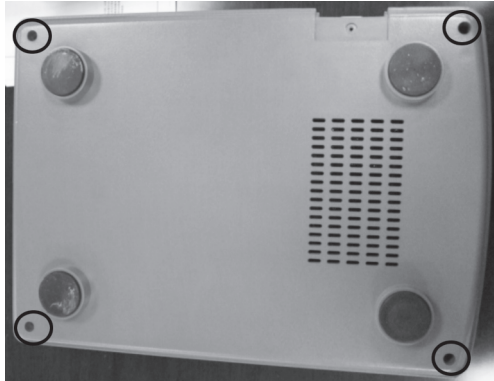

Fig.1
2.1.1 Remove the screws at the bottom of the unit. Refer to Fig.1. Then remove the cover.